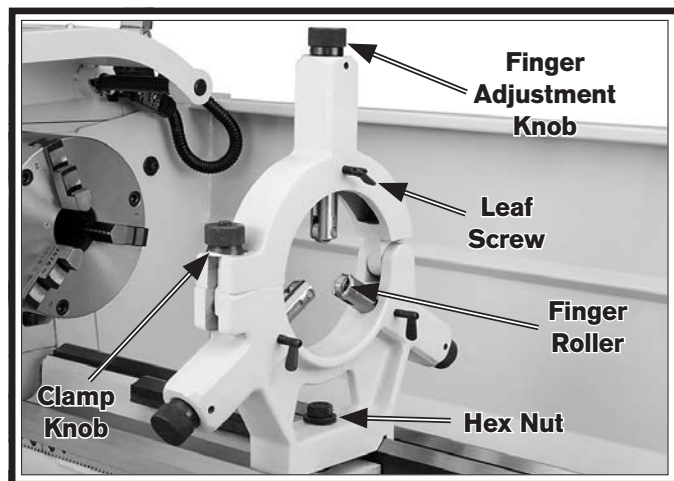

Figure 61. Steady rest components.
Familiarize yourself with the steady rest components shown in **Figure 61** to better understand its operation.
3. Position the steady rest where required to properly support the workpiece, then tighten the hex nut shown in **Figure 61** to secure it in place.